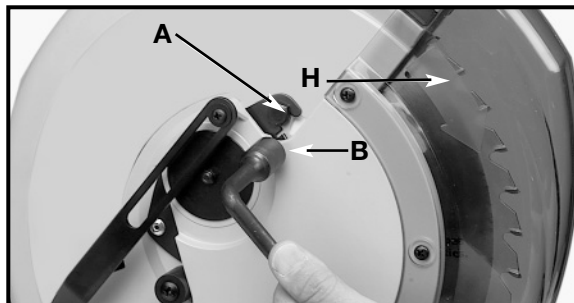
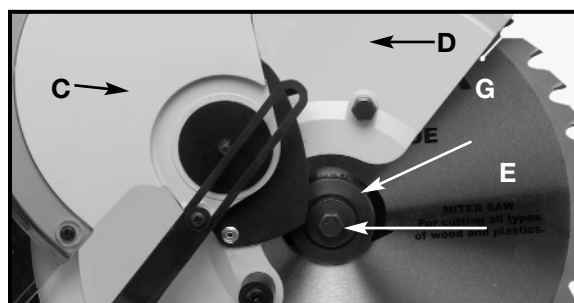
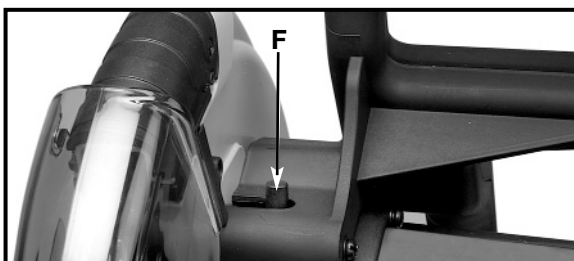

Fig. 41
Fig. 42
Fig. 43
3. Loosen screw (A) Fig. 41, with wrench (B) (provided).
4. Rotate arbor cover (C) Fig. 42, and lower guard (D) Fig. 42, to the rear, exposing arbor screw (E).
5. Remove arbor screw (E) Fig. 42, by turning screw clockwise with wrench (supplied), while at the same time, pressing in on arbor lock (F) Fig. 43, to keep the arbor from turning. Remove outside blade flange (G) Fig. 42, and saw blade (H) Fig. 41. **DO NOT REMOVE INSIDE BLADE FLANGE.**
6. Attach the new saw blade **MAKING CERTAIN TEETH OF SAW BLADE ARE POINTING DOWN AT THE FRONT**, and attach outside blade flange (G) Fig. 42. Check to see that the flats on outside blade flange are engaged with flats on arbor shaft.
7. Thread arbor screw (E) Fig. 42, into saw arbor by turning screw (E) counterclockwise as far as possible by hand. Then tighten arbor screw (E) with wrench supplied while at the same time pressing in on arbor lock (F) Fig. 43, to keep arbor from turning.
8. Rotate arbor cover (C) Fig. 42, and lower guard (D) to the front and tighten screw (A) Fig. 41 that was loosened in **STEP 3**.